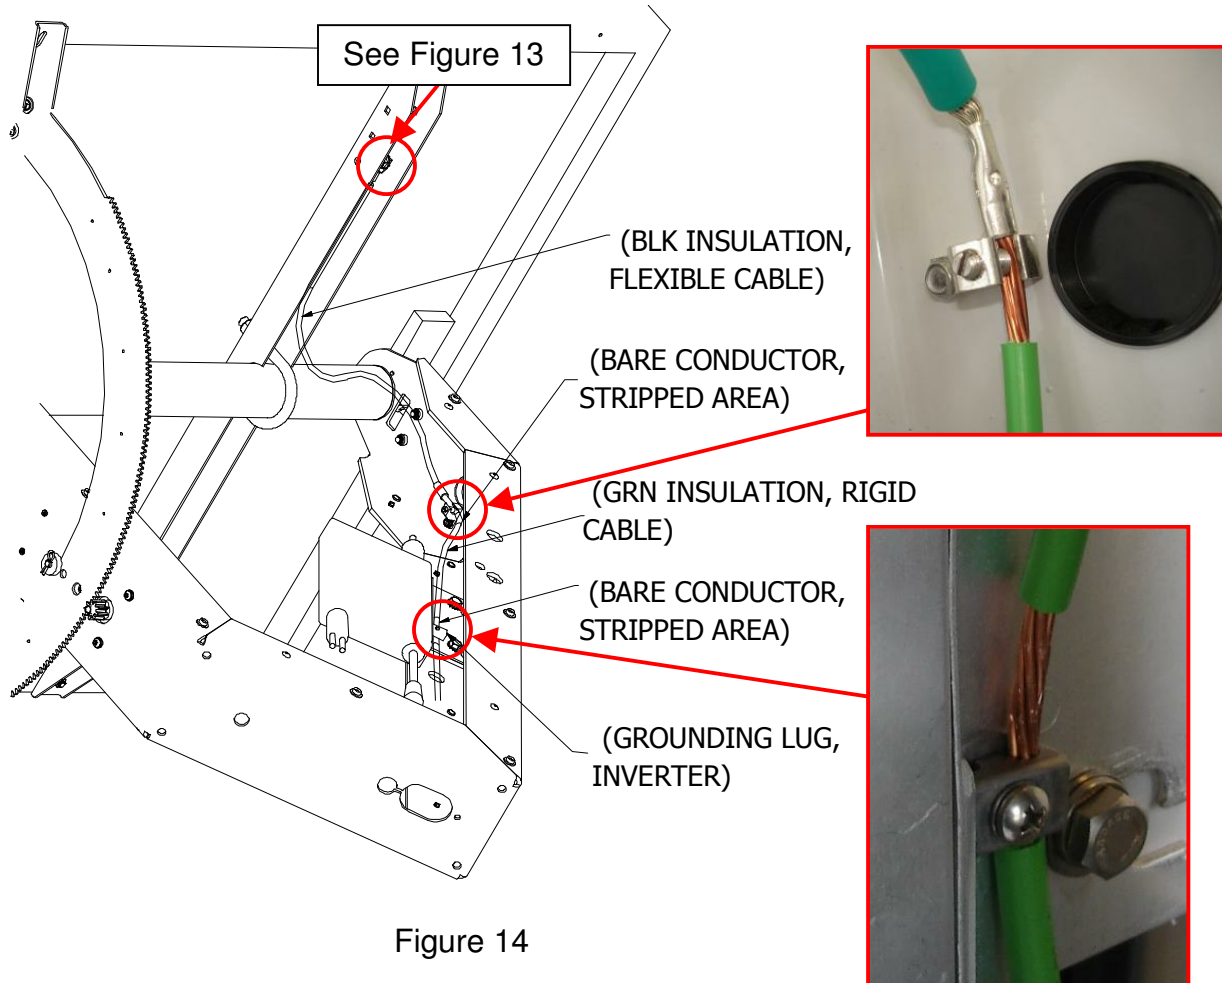

Figure 14
3. Route the Ground cable (#6 AWG), as shown, through the frame Ground lug and the Inverter Ground lug and fasten securely. See Figure 14.